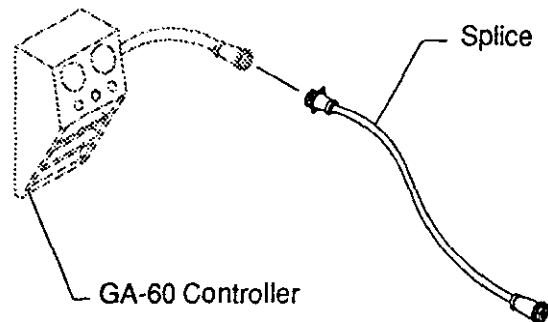

Figure 3
3. Connect (92-4543) splicer harness from brake controller receptacle on L.H. frame of Workman to GA-60 controller. Route and retain harness out of the way. (See Fig. 3)
CONNECT GA-60 AERATOR TO WORKMAN (Fig. 3 & 4)